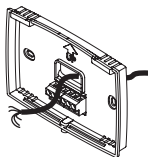

Figure 2
5. Pass the wires through the large opening located at the bottom center of the wallplate as per Figure 2.